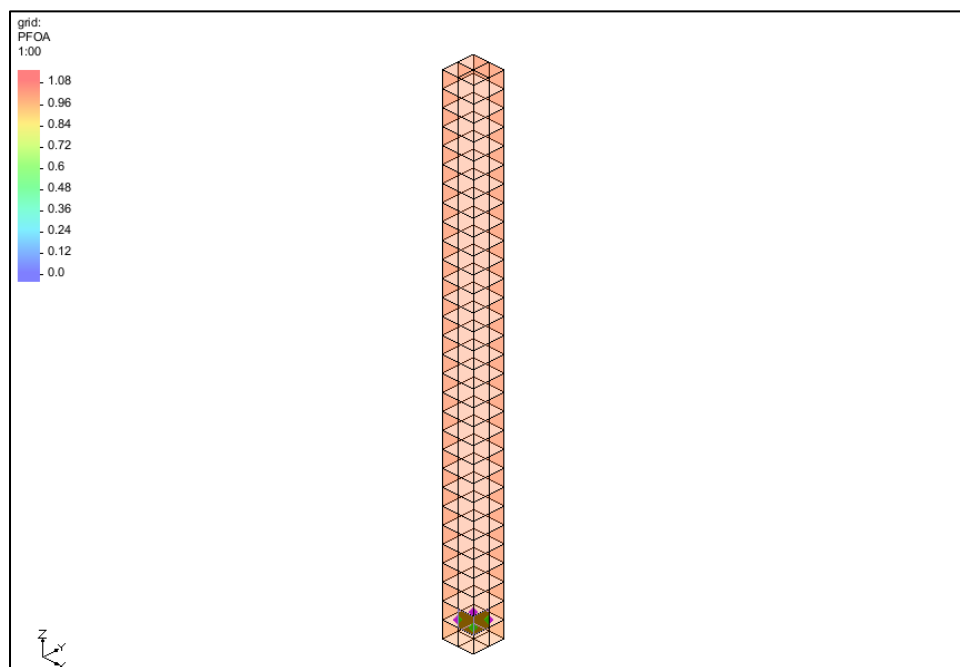

Figure 2 The selected cell area.
6. Select the last time step and, using the **Select Cells** tool, select the closest bottom cell (Figure 2).